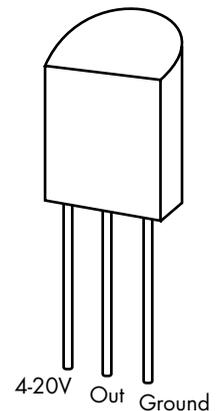

Figure 10-6: Pinout of the LM35 temperature sensor
21. Connect pin 1 (4–20V) of the LM35 to the red positive rail. (See Figure 10-6 for the pinout of the LM35.)
23. Connect the output pin (center) of the LM35 to pin A0 (26) on the Nano.